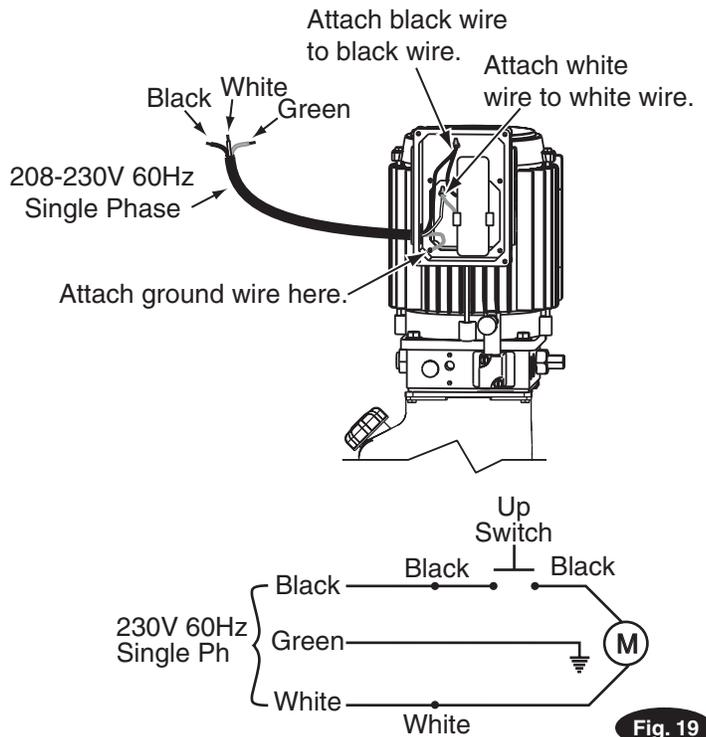

Fig. 19
B.) For 220V single phase - have a certified electrician wire the power unit according to Fig. 19.